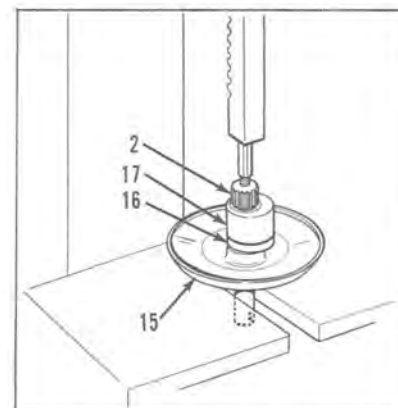

Figure 10-14
11. Remove fixed half of sheave (15) only if replacement is necessary. It may be necessary to heat fixed half with a torch to remove. The fixed half of sheave (15), O-ring (16) and eccentric (17) will come off as a unit. Press shaft from sheave and eccentric by placing in arbor press and pressing on threaded end of shaft (see Figure 10-14). Note: Take caution not to damage threads.
12. Remove seal (18) and cone (21) from shaft.
13. Press cups (19) from eccentric.